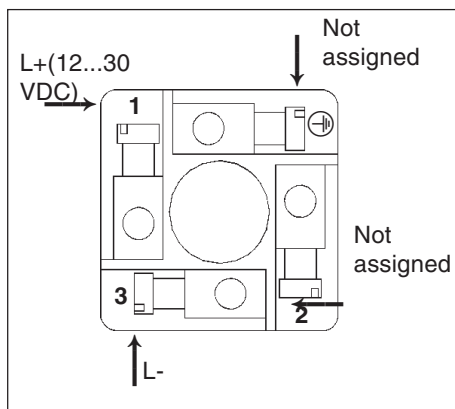

Fig.3.5 Pin assignment
3. Connect according to pin assignment in Fig. 3.5.